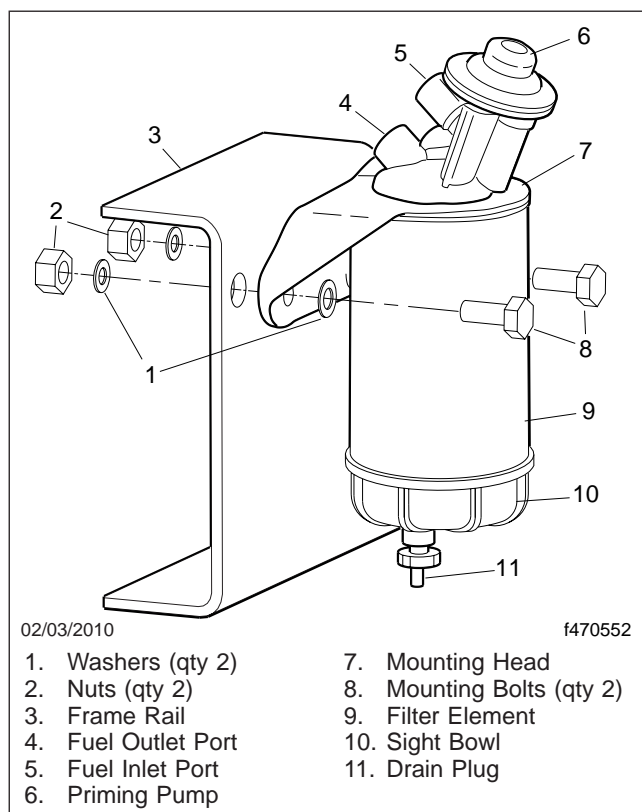

Fig. 11.11, Alliance Fuel/Water Separator Assembly and Installation
- 4.3 *Alliance/Racor Models:* Turn the drain plug counterclockwise to open it. See Fig. 11.11.